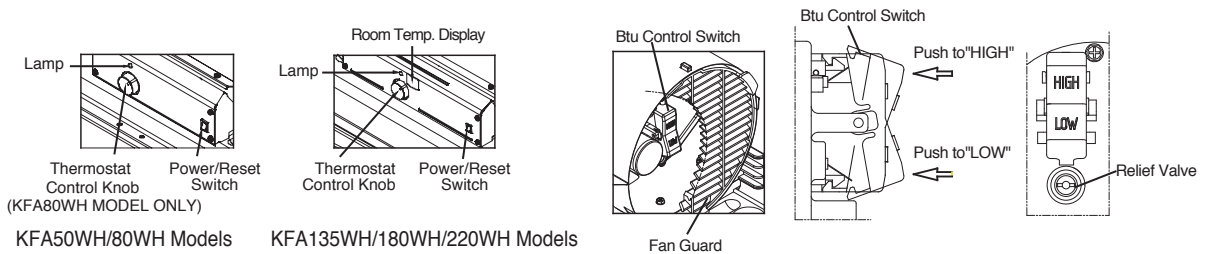

Figure 8. Controls for All Models
Insert screws through handles, fuel tank flange and wheel support frames as shown in Figure 8 and attach nut finger tight after each screw is inserted.
5. Push “BTU control Switch” to “High” level. (See Figure 8.)